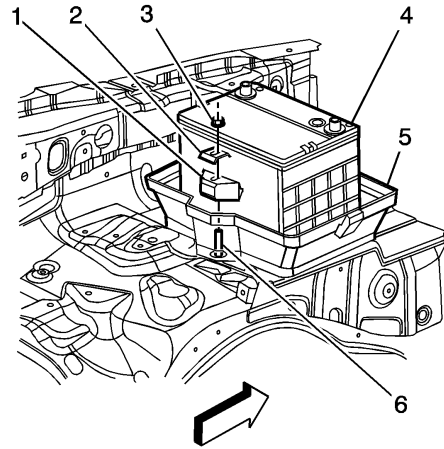

Fig. 3 Battery hold down retainer & battery removal
11. Remove battery hold down retainer nut (3), washer (2) and retainer (1), Fig. 3.
12. Remove battery (4) from lower battery box (5), Fig. 3.
1. Install battery (4) into lower battery box (5), Fig. 3.
2. Install battery hold down retainer (1), washer (2) and nut (3), Fig. 3. Torque nut to 11 ft. lbs.